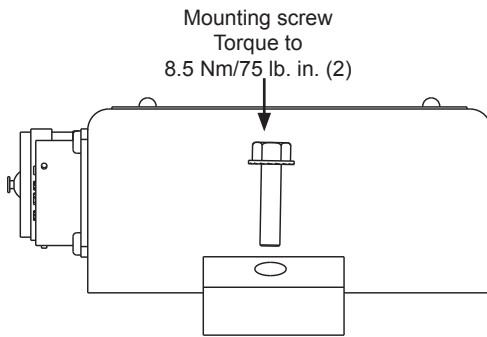

Figure 5: Mounting Regulator
1. Mount regulator on alternator and torque mounting screws to 8.5 Nm/75 lb. in. See Figure 5.